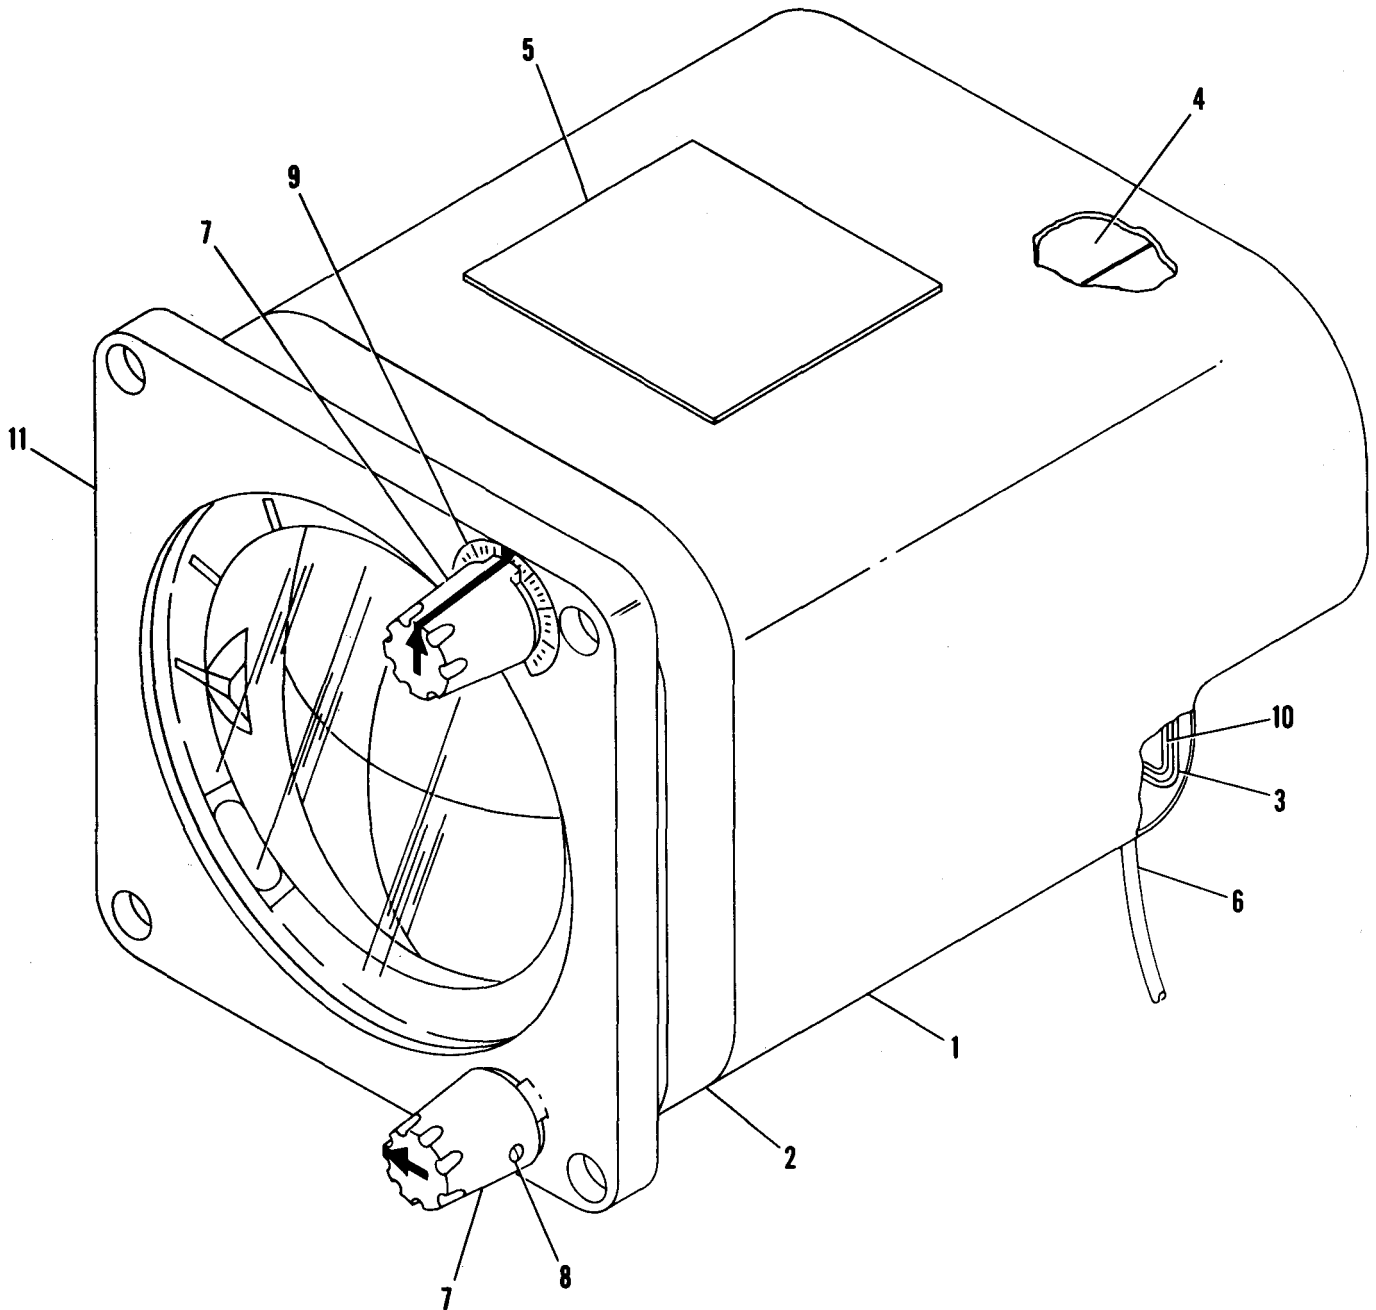

Figure 2-1. Remote Attitude Indicator.
(1) Cut evacuation tube (6, fig. 2-1).
(2) Loosen four setscrews (8) securing knobs (7) to indicator. Remove knobs.
(8) Remove connector gasket (10).
(See item 11, figure 2-1 for NHA)